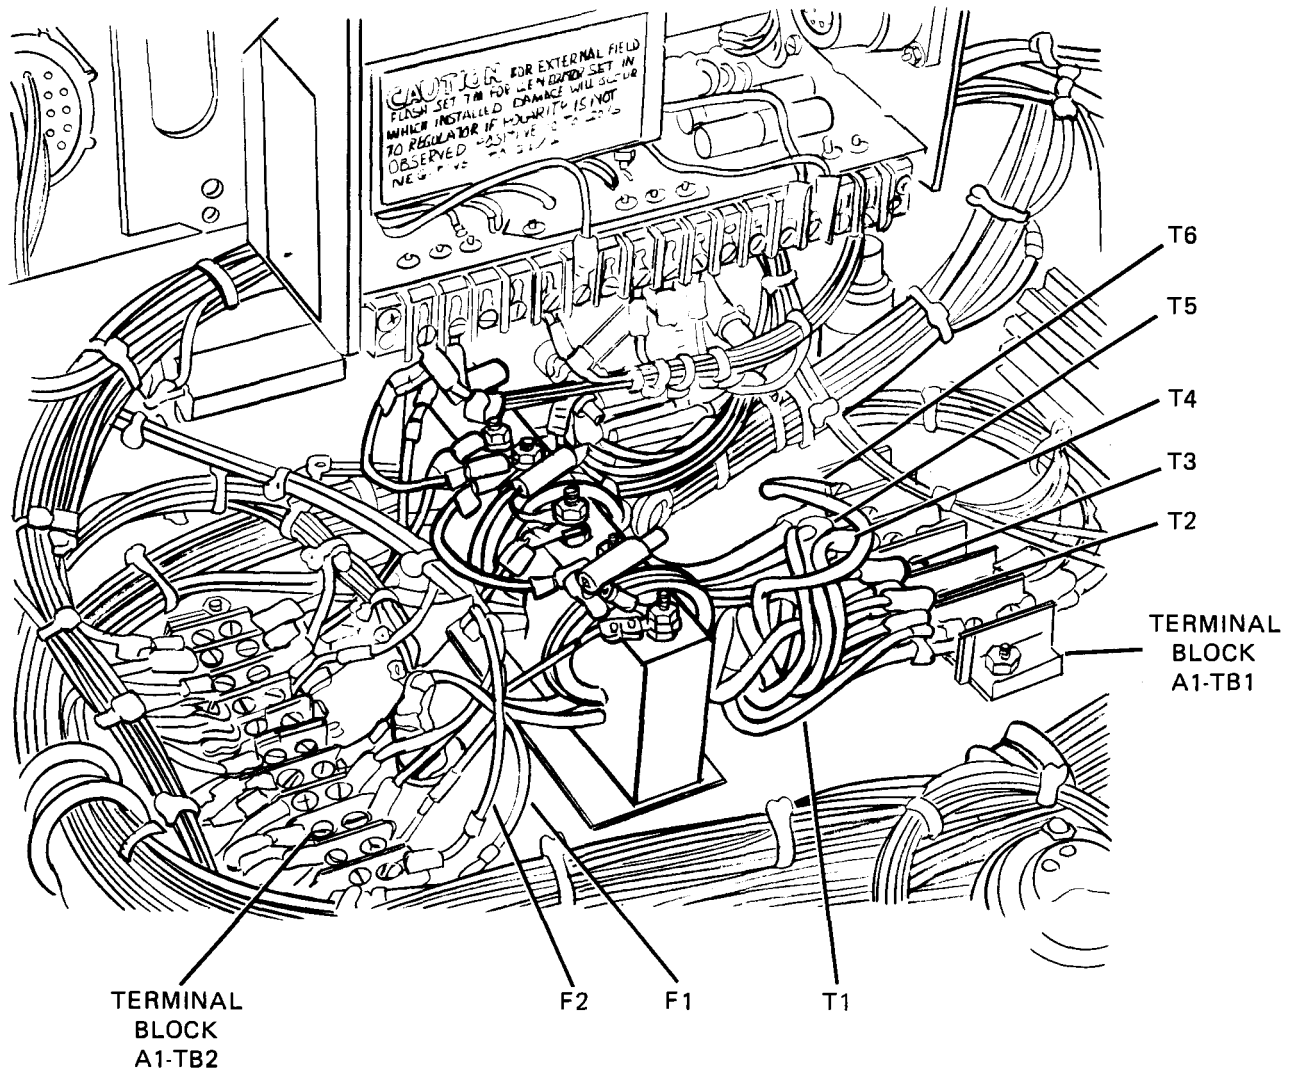

Figure 2-3. Generator Wiring MEP-016B and MEP-021B.
- 1 Tag and disconnect exciter stator leads F1 and F2 at terminals #1 and #2 of terminal block A1-TB2 (see Figure 2-3).